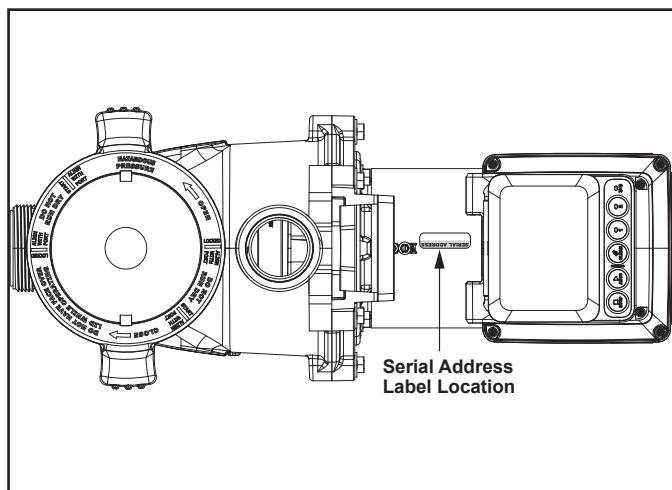

Figure 10. Serial Address Label Location
AquaLink RS systems using Rev W and later, manufactured after mid-year 2022, support up to sixteen (16) variable-speed pumps that utilize a pre-assigned SERIAL ADDRESS. DIP Switches 3-4 are not utilized. Pumps in this manual are all assigned a unique SERIAL ADDRESS at the factory. The SERIAL ADDRESS label can be found on the pump motor (see Figure 10).